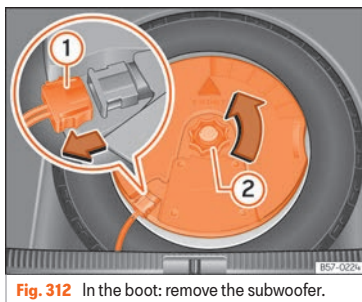

Fig. 312 In the boot: remove the subwoofer.
- Disconnect the *subwoofer* »» Fig. 312 ① speaker cable.
- Turn the securing wheel in an anti-clockwise direction »» Fig. 312 ②.